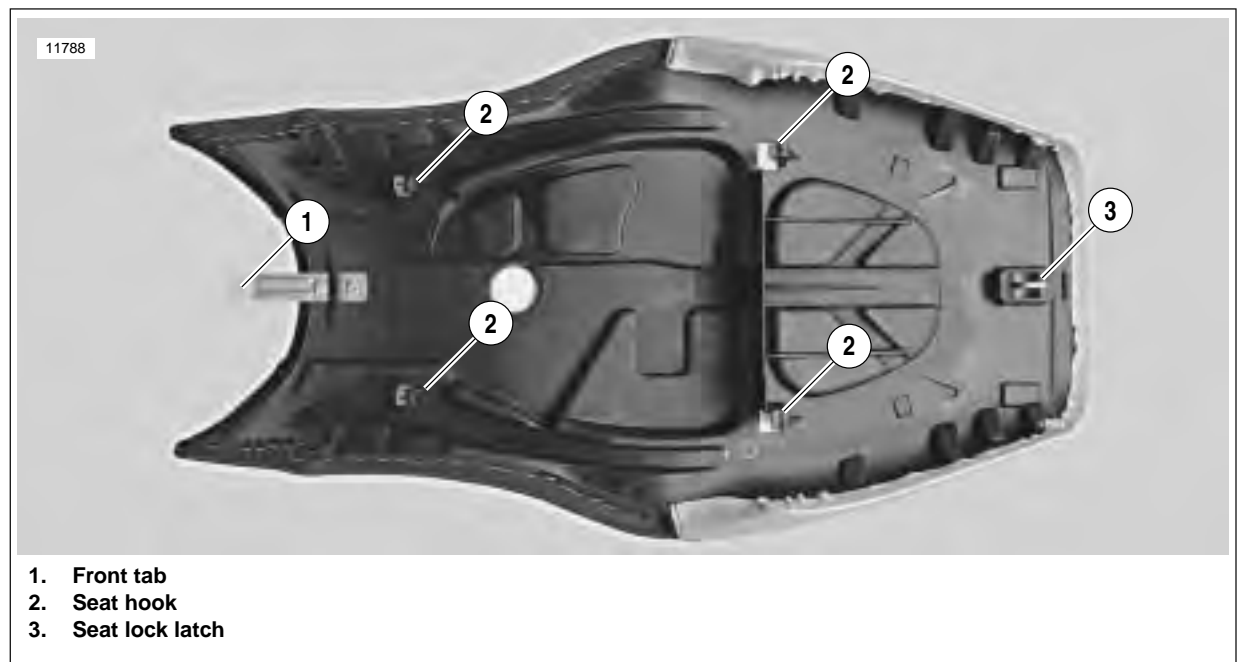

Figure 2-134. Seat Attachments
See Figure 2-134. The seat anchors in six places on the vehicle. The first is a front tab (1) which fits into a slot in the frame. Four seats hooks (2) slide onto the shouldered lugs located in the left and right forward tail sections. The last is the seat lock latch which fits into the slot on the seat latch.
1. See Figure 2-134. Position seat and slide forward to engage the front tab (1) with the slot in the frame and the four hooks (2) with the shouldered lugs on the tail sections.
3. Press down firmly on rear of seat to engage seat lock latch (3).